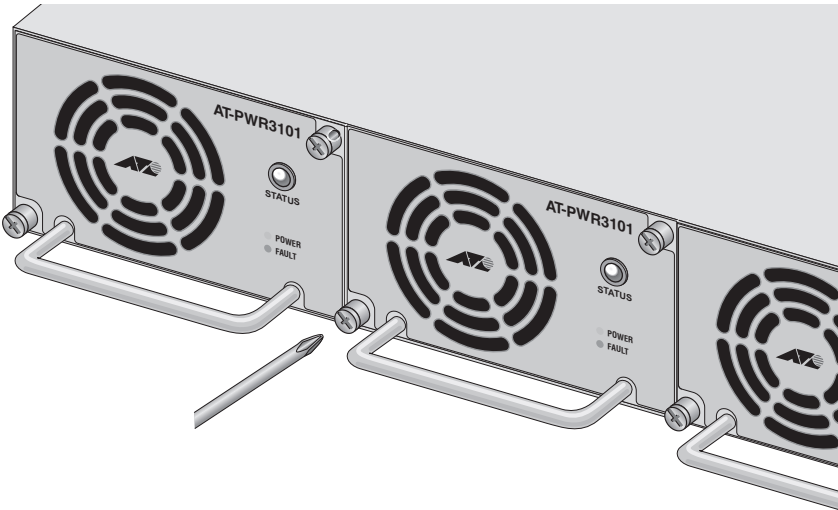

Figure 27. Securing the AT-PWR3101 Module in the AT-RPS3104 System
9. Using a # 1 Phillips screwdriver, tighten the two captive screws to secure the module in the AT-RPS3104 system (see Figure 27).